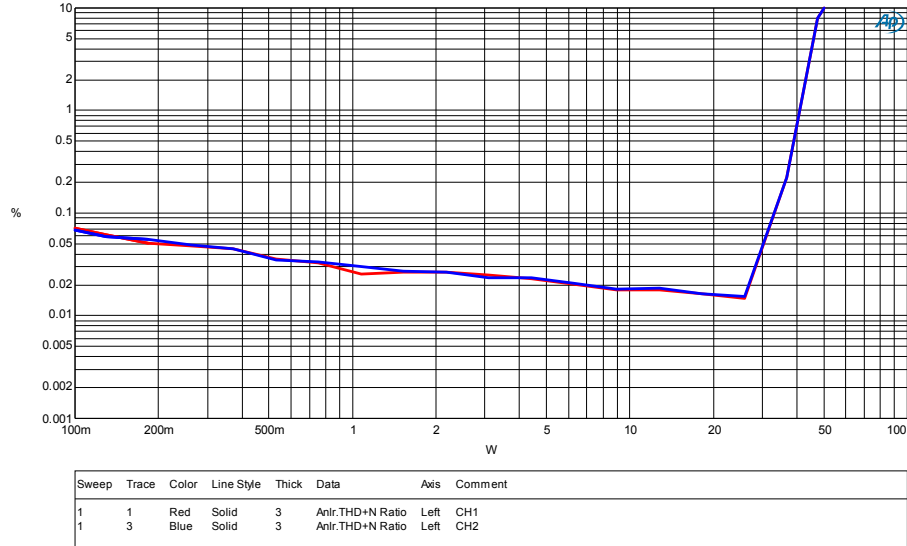
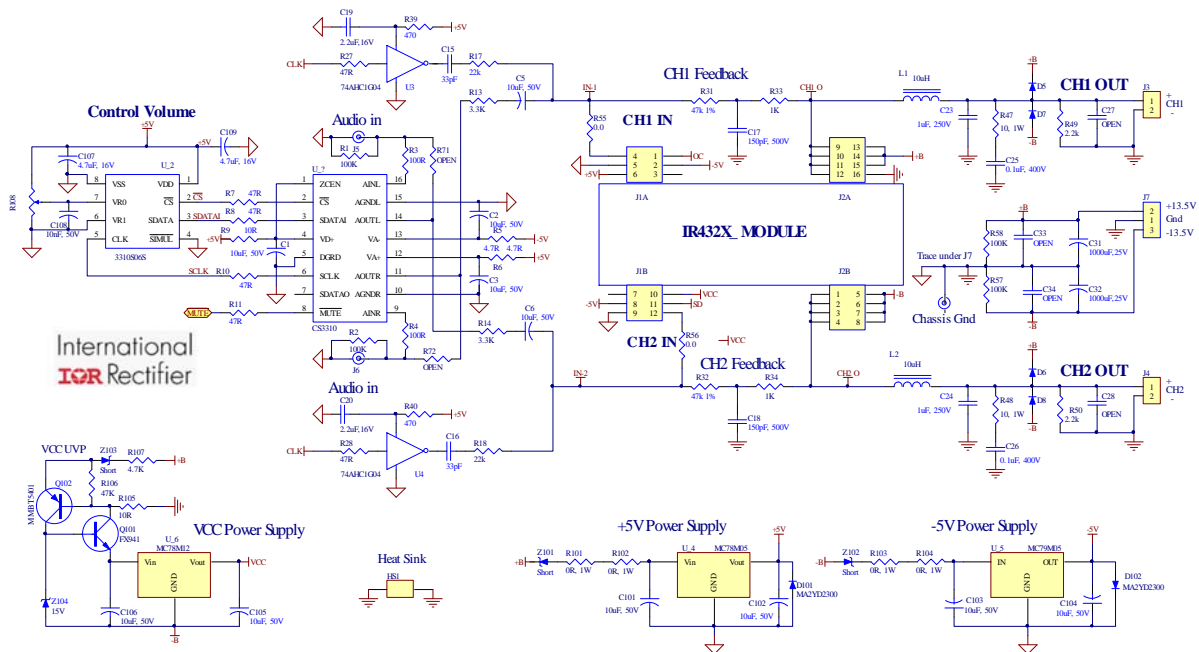

Figure 3
Figure12
15. For all subsequent tests as shown on the Audio Precision graphs below (Figure 3- Figure12), the measurements are taken across J3 and J4 with an AES-17 Filter. Observe that a 1  $V_{RMS}$  input generates an output around THD+N=1% power level.